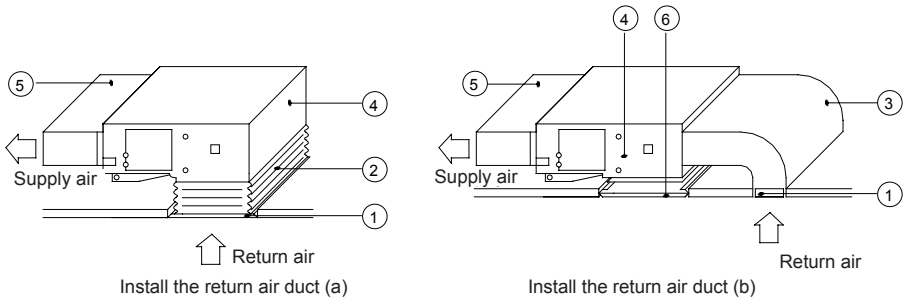

Fig.4.36
- (3). If the bottom return air is desired, just change the place of the rectangular flange and the return air cover plate.
- (4). Connect one end of the return air duct to the return air outlet of the unit by rivets and the other to the return air louver. For the sake of the convenience to freely adjust the height, a cutting of canvas duct will be helpful, which can be reinforced and folded by 8# iron wire
- (5). More noise is likely to be produced in the bottom return air mode than the backward return air mode, so it is suggested to install a silencer and a static pressure box to minimize the noise.
- (6). The installation method can be chosen with considering the conditions of the building and maintenance etc., as shown in Fig.4.36.